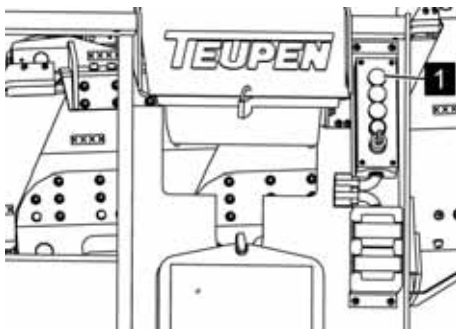

Fig. 66: Toolbar
*If the warning lamp (Fig. 66/1) on the toolbar is blinking, only "non-critical" movements are possible. These are*